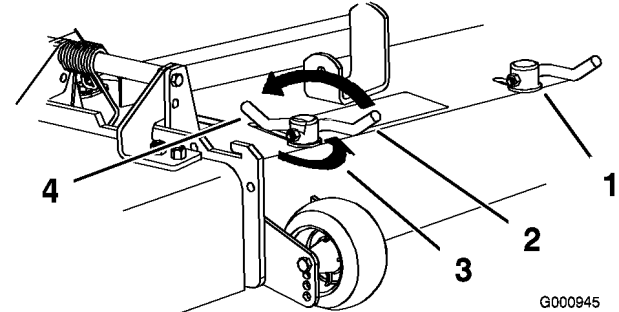

Figure 21
3. To adjust the cam locks, swing the lever up to loosen the cam lock (Figure 21).
5. Swing the lever back over to tighten the baffle and cam locks (Figure 21).